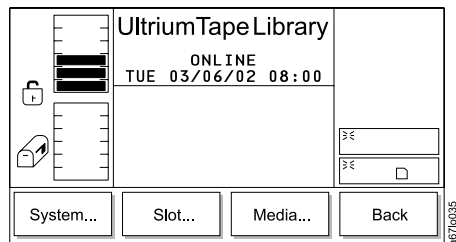

Figure 84. Library Submenu
2. Press the button below the **Library** softkey. The Library Submenu displays (see Figure 84).